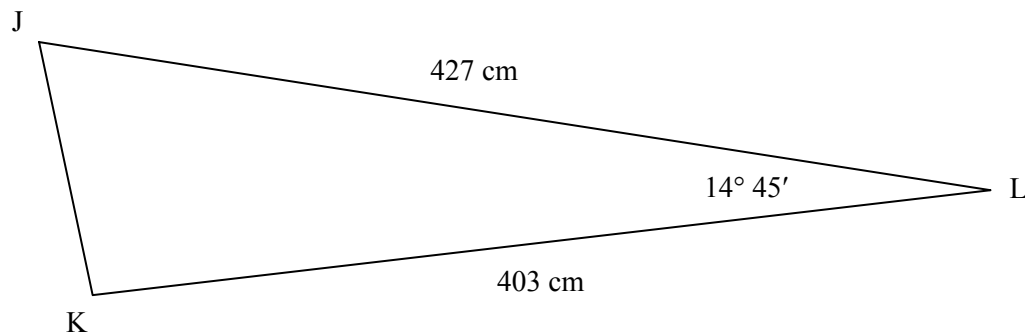

Figure 13-7: Acute triangle
- a. Calculate the length of side JK in Figure 13-7 using the Law of Cosines.